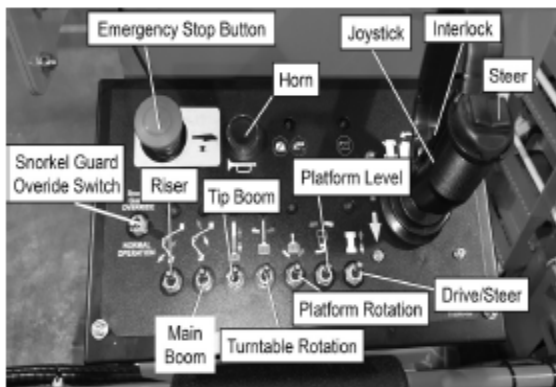

Figure 9.2 – Upper Controls
3. Twist the emergency stop button clockwise at the upper controls (refer to Figure 9.2).